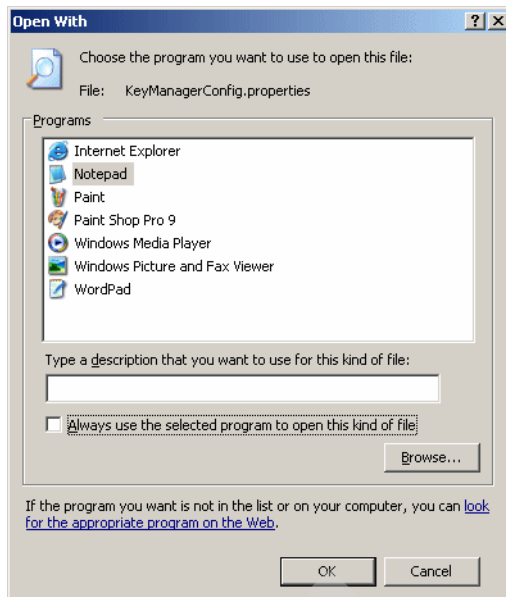

Figure 6-34 Open With window
2. Use a text editor such as Notepad to edit the file (Figure 6-34). Click **OK**.